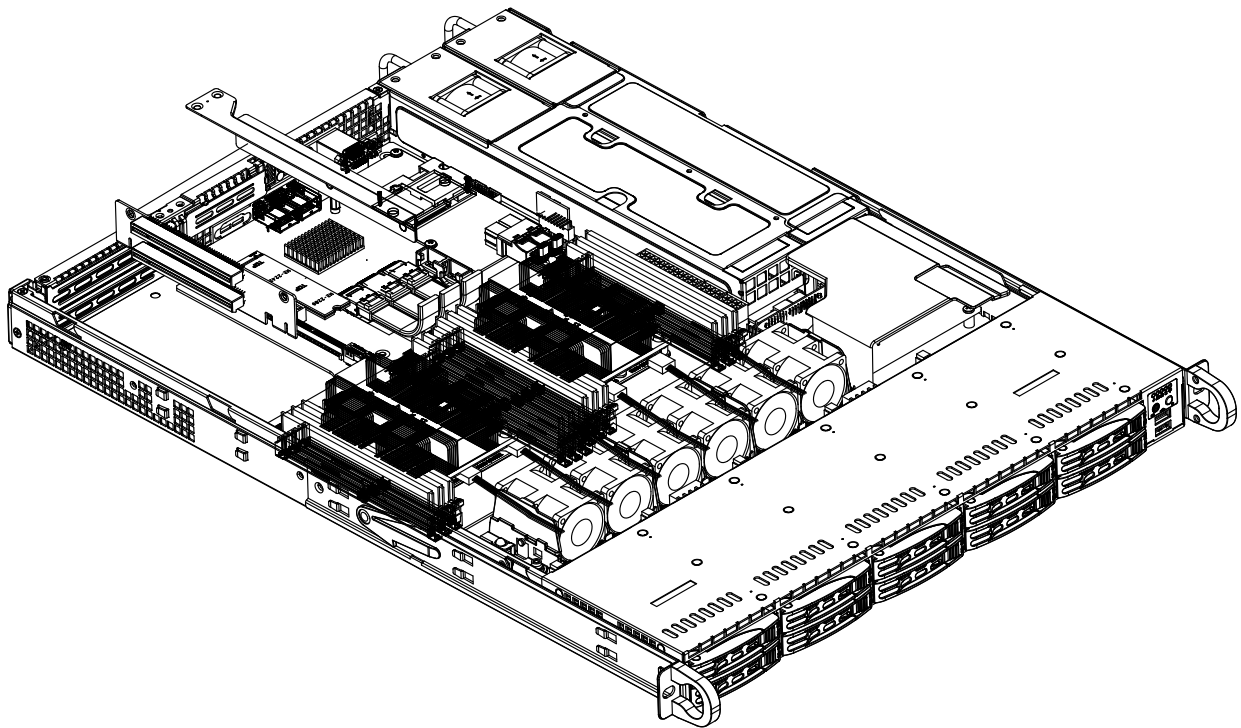

Figure 3-3. Removing the Riser Bracket
1. Remove the riser card bracket from the chassis by unscrewing the screws indicated in Figure 3-3.